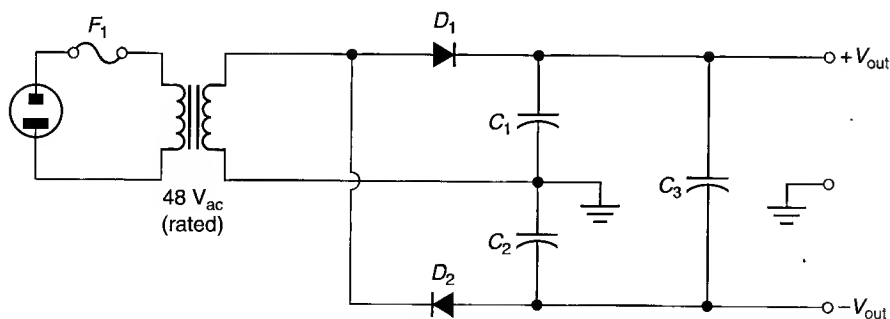

FIGURE 4.44
32. Determine the dc output voltage values for the dual-polarity power supply in Figure 4.44. Assume that the diodes are ideal components.
33. Assume that the transformer in Figure 4.44 is a 36 V_{ac} transformer and that the diodes in the circuit are ideal components. Determine the dc output voltage values for the circuit.